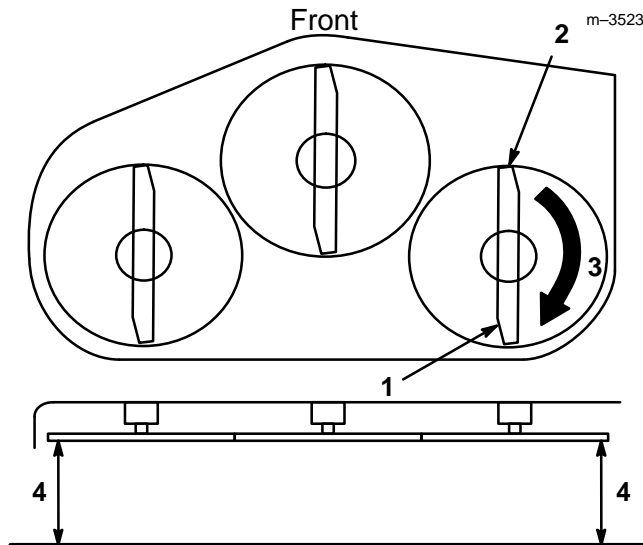
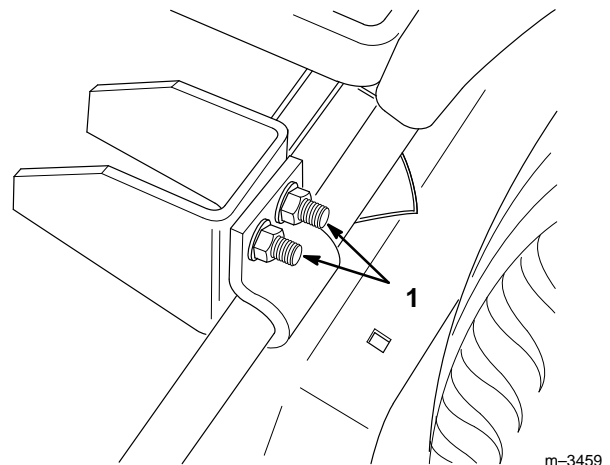

Figure 14
Figure 16
2. Carefully rotate one of the blades so it is facing front and rear (Fig. 14).
3. Measure the distance from the front tip of the blade (Fig. 14) to the flat surface. Then carefully rotate the blade tip until it is in the rear position. When the blade tip is in the front position, it should be 1/8" (3 mm) lower than when it is in the rear position.
Equalize side-to-side cut by adjusting the two carriage bolts (Fig. 16) on the mower. Check height of blade at outside blade tips as shown (Fig. 14).
5. Check the slope of one of the blades (Fig. 14).